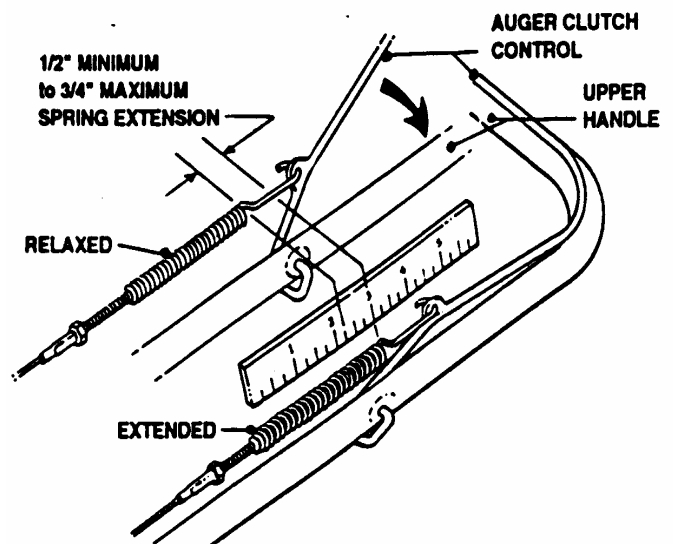

FIGURE 3
**STEP 3:** Measure auger clutch control cable extension from a relaxed position to full extended position. Proper extension should be between 1/2" minimum to 3/4" maximum extension. NOTE: Measure from the top of spring (The top is in relation to where spring hooks into auger clutch control). Loosen jam nut at the upper end of cable. Hold threaded end of cable and then turn cable clockwise until correct extension is achieved. Retighten jam nut. **IMPORTANT:** DO NOT over tighten cable. The cable must have slack for the auger brake to function properly. See Figure 3.